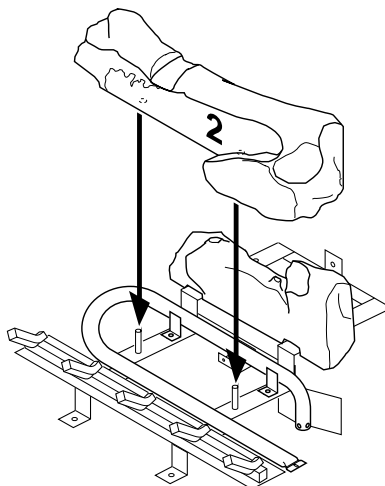

Figure 51 - Installing Log No. 2
2. Rest log #2 (large front log) on the pins on the front part of the grate (see Figure 51).